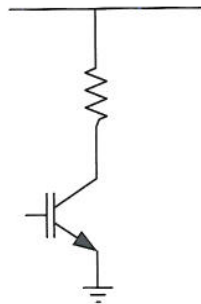
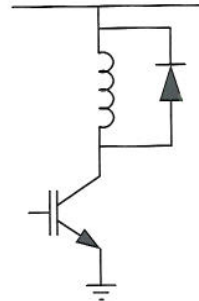

Figure Q4.1 IGBT with resistive load
Figure Q4.2 IGBT with inductive load
- a) Explain why the switching losses in the circuit of Figure Q4.1 are lower than the switching losses in the circuit of Figure Q4.2, when the supply voltage, on-state steady current and gate drive circuit are the same in each case.